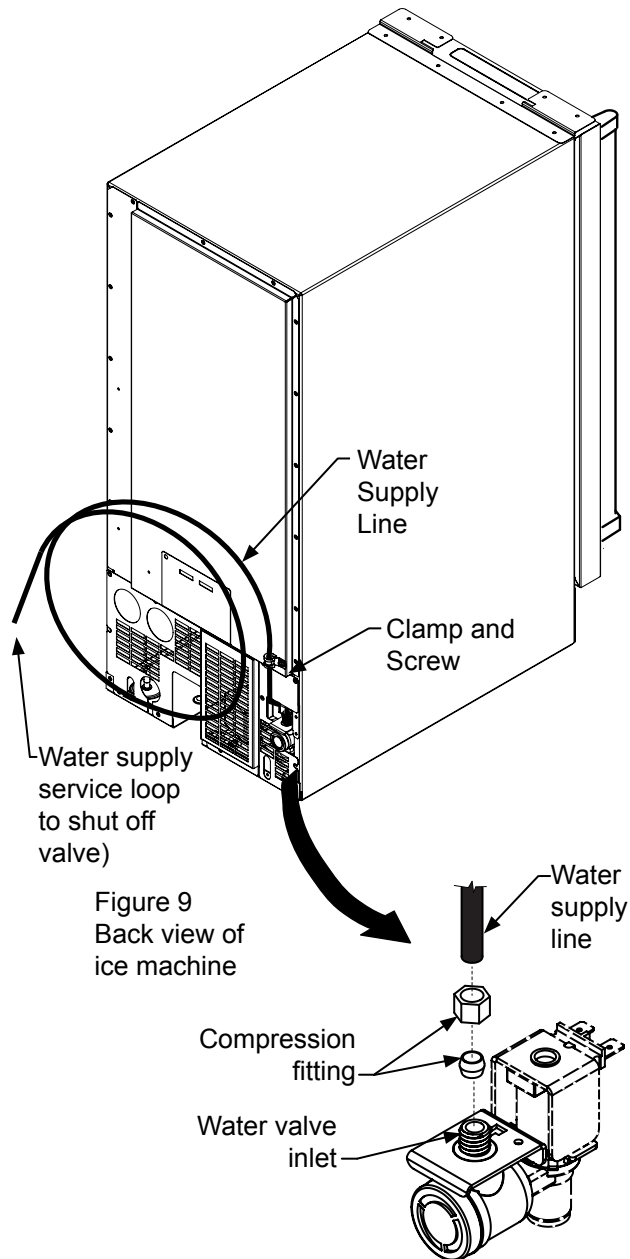

Figure 9
Use 1/4" copper tubing for your water supply which is available at any local hardware or plumbing supply store. Route the 1/4" copper tubing to suit your installation being sure not to kink the tubing. Purchase enough copper tubing length to allow a coil to be formed behind the unit for a "service loop" which will allow the appliance to be pulled out from the installation for servicing or cleaning. (See Figure 9). Connect the copper tubing to the "top side" of a cold water pipe to prevent the ice-maker from plugging with sediment.
**IMPORTANT:** Secure the water supply line to the back of the cabinet with the screw and strain relief clamp provided in the corner of the back panel. (See Figure 9).